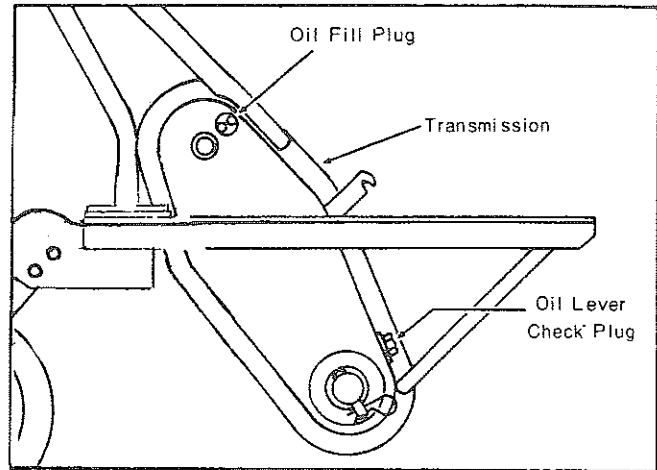

Figure 5
2. Fill transmission with unit in upright position (See Fig. 5).